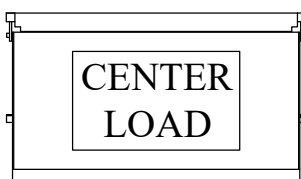

Figure 6: Step 9.
- Step 9. To load and use the liftgate, center the load on the platform side to side and front to back (Figure 6). Put heavier loads as close to the front of the platform as possible (near truck). Platform cart stops may be actuated at this time, if equipped.